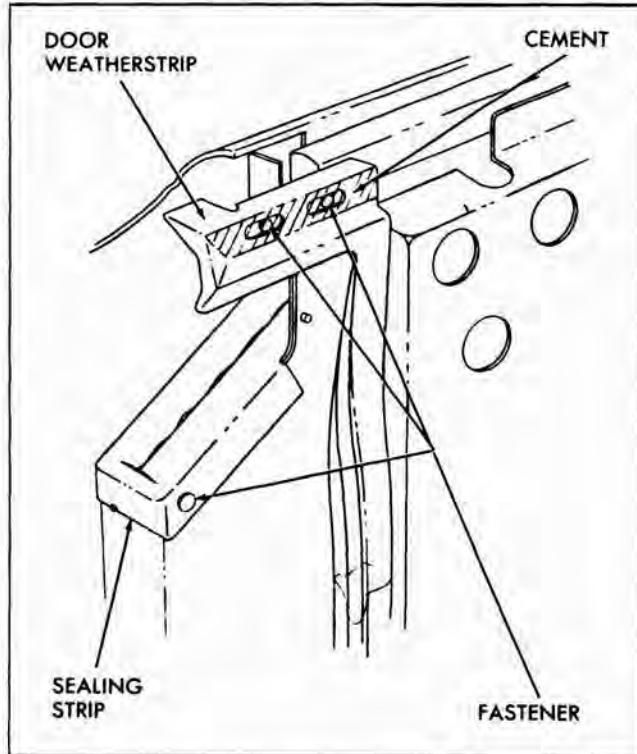

Fig. 3-3 Rear Door Hinge Pillar
5. At front corner of rear doors (at belt), apply weatherstrip cement to facing of formed end of weatherstrip and corresponding surface of door inner panel and cement weatherstrip in place. Replace forward snap fastener only (Fig. 3-3).
1. Remove snap fasteners securing sealing strip to hinge pillar facing of rear door and remove strip (Fig. 3-3).